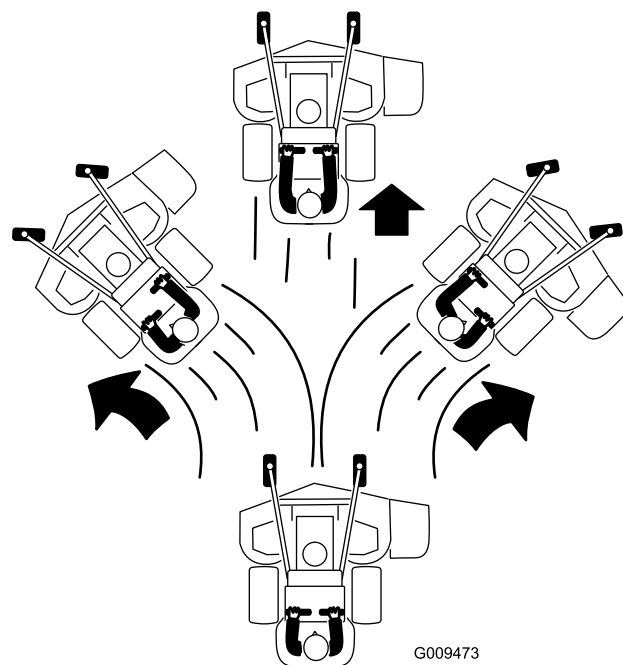

Figure 22
- Slowly push the motion control levers forward (Figure 22).